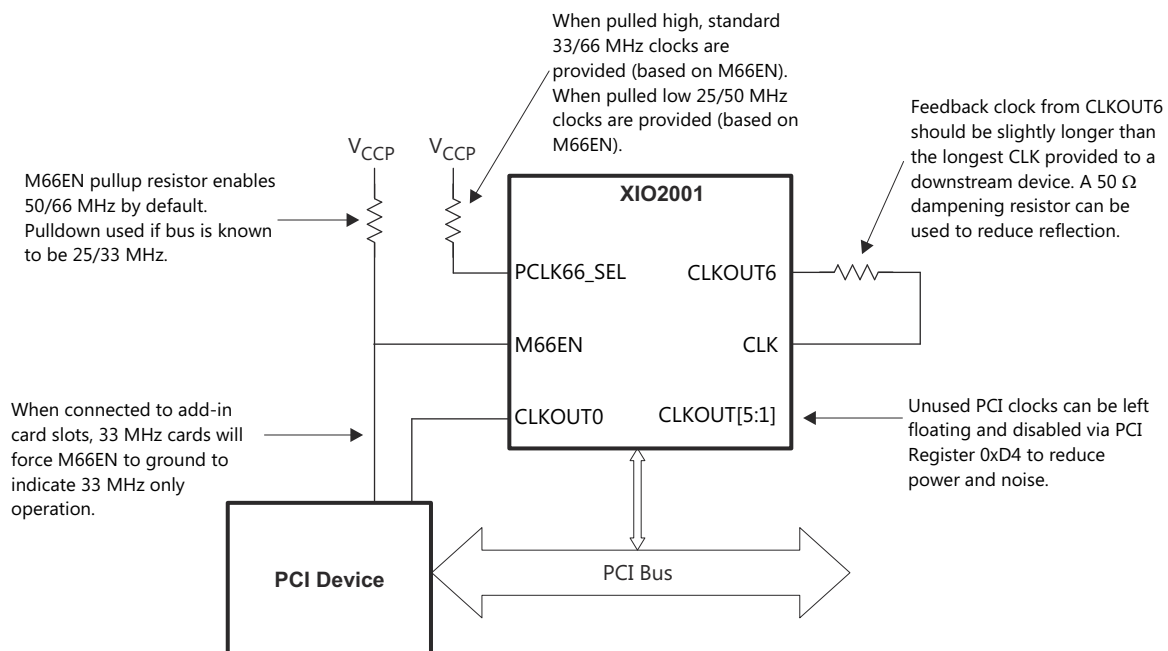

图 9-2. External PCI Bus Clock Configuration
- An external clock feedback feature is provided to de-skew PCI bus clocks. Connecting the CLKOUT[6] terminal to the CLK terminal is required if any of the other six CLKOUT[5:0] terminals are used to clock PCI bus devices. The CLKOUT signals should be slightly longer than the longest synchronous PCI bus signal trace. 图 9-2 illustrates the external PCI bus clock feedback feature. The use of series resistors on the seven PCI bus clocks should be considered to reduce circuit board EMI.